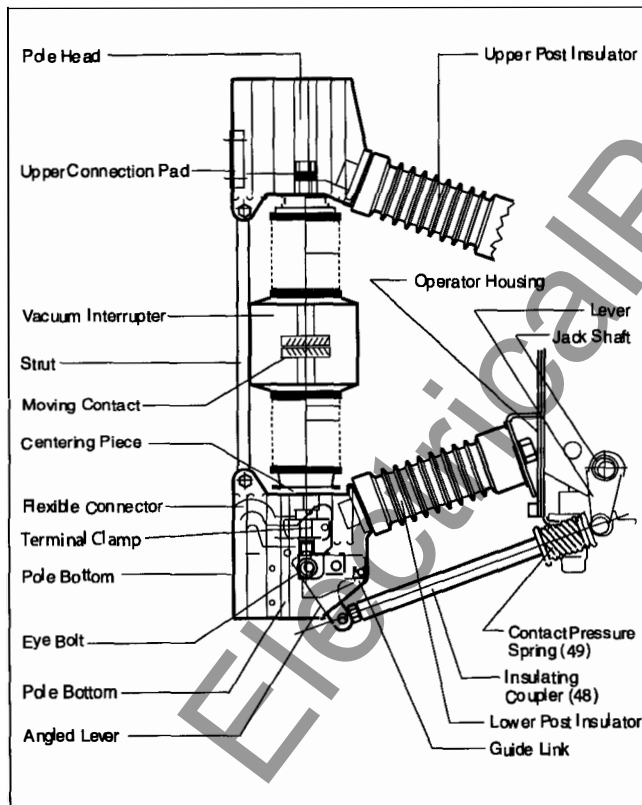

Figure 5. Pole Assembly
Circuit Breaker Pole (Figure 5)
Current-Path Assembly (Figure 5)
Vacuum Interrupter (Figure 5)
Switching Operation (Figures 5 and 6a)
As the closing spring discharges, the charging shaft (62.1) is turned by crank (62.2). The cam disc (62.3) at the other end of the charging shaft actuates the drive lever (62.6), with the result that jack shaft (63) is turned by lever (63.5) via the trip free coupling rod (62.8). At the same time, the levers (63.1), (63.5) and (63.7) fixed on the jack shaft operate the three insulating couplers (48) (**Figure 5**) for the circuit breaker poles. Lever (63.7) changes the Open-close indicator (58) over to Open. Lever (63.5) charges the opening spring (64) during closing, and the circuit breaker is latched in the closed position by lever (64.3) with pawl roller (64.3.1) and by pawl (64.2). Lever (63.1) actuates the auxiliary switch (68) through the linkage (68.1).